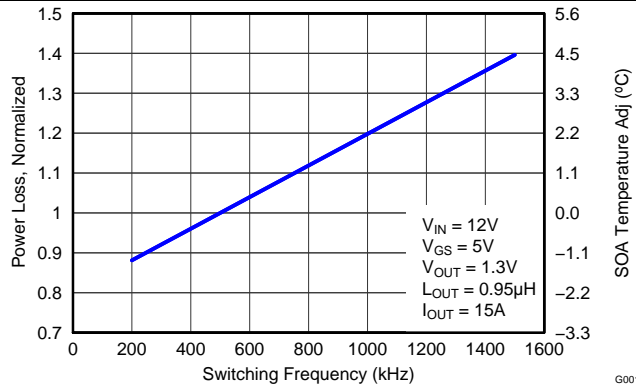

Figure 5. Normalized Power Loss vs Switching Frequency
- Normalized Power Loss for switching frequency ≈ 1.11 (Figure 5)
- SOA adjustment for switching frequency $\approx 1.03^{\circ}\text{C}$ (Figure 5)